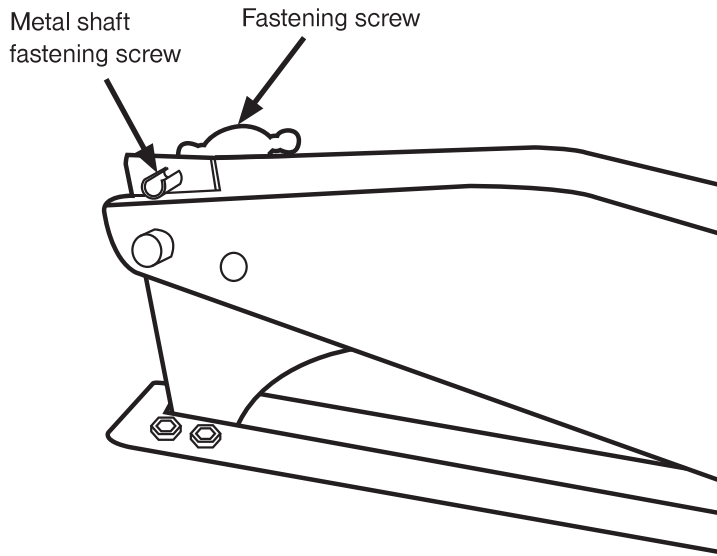

Fig. 6
Make sure that the protective hood (8) is securely positioned. The metal shaft which has been premounted already must be located above the protective hood (8) and thus serves as a limit stop for the protective hood (see Fig. 6).